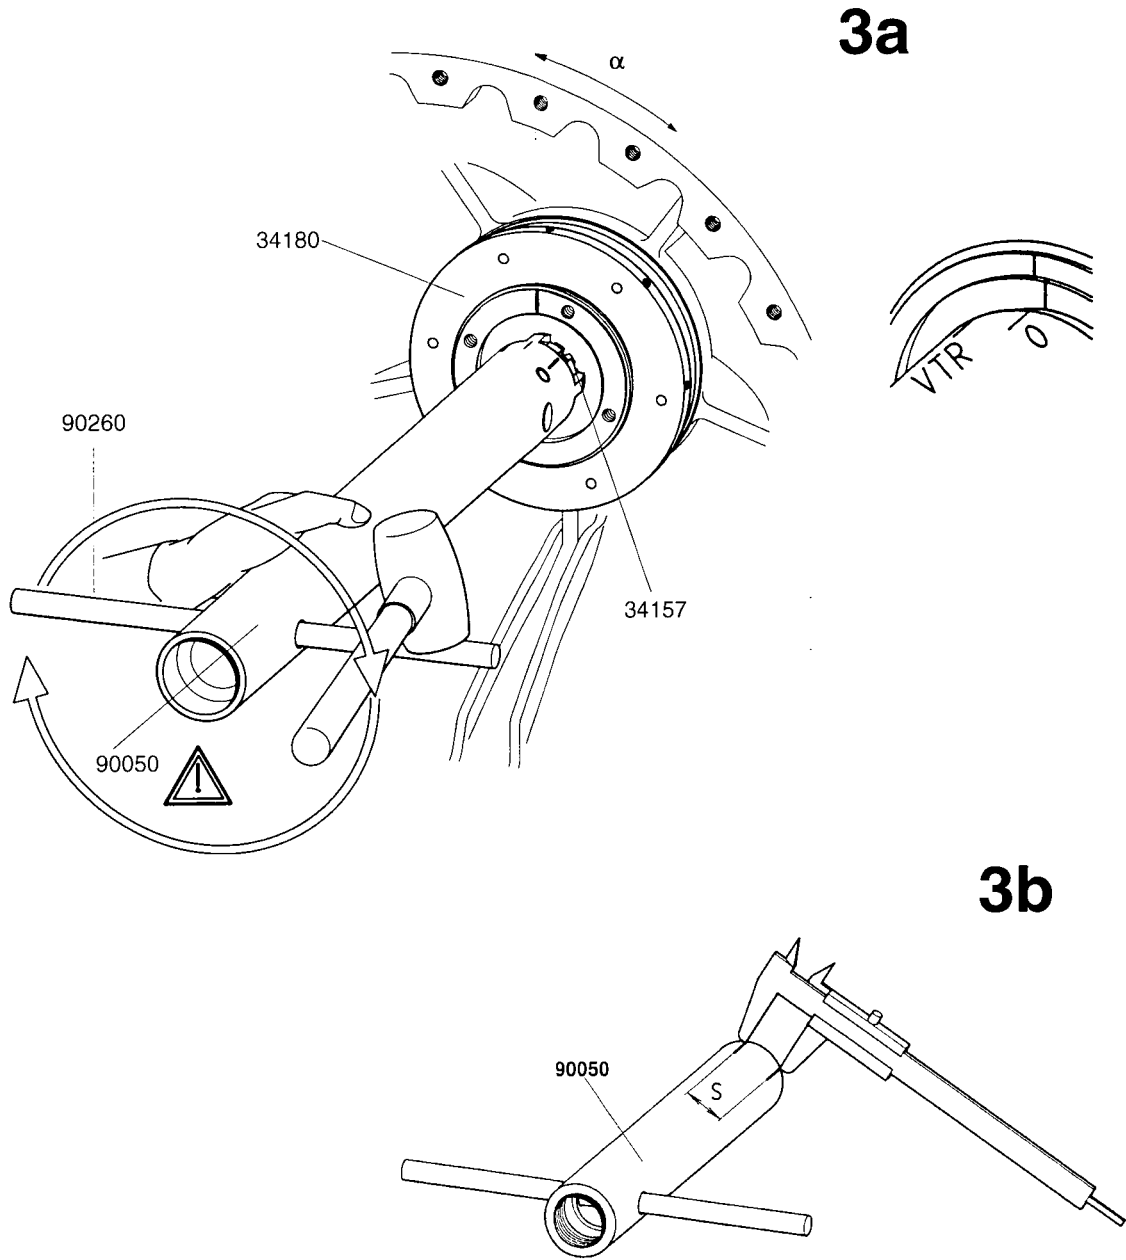

Fig. 5-8
- Carefully fit the socket screws (51025) with the locking washers resp. locking edge washer (51026) to the bearing (34100) and tighten them (VTR214 - 304 with torque, s. table in sec. 8) (see fig. 5-8/2).